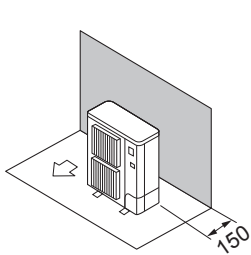

Fig. 2-3
- ① Obstacles at rear only (Fig. 2-3)